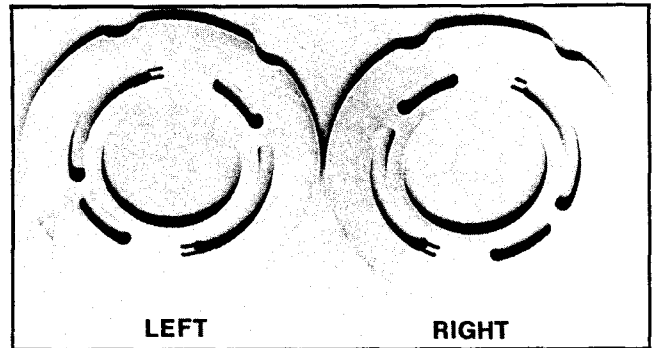

Figure 19. Wafer plates showing right and left hand configurations.
1. Assemble wafer plate locating pin (12) into valve block (51). Refer to Figure (10).
2. Assemble wafer plate (11) over the bearing race and locating pin (12) with bronze surface away from valve block (51). See Figure 19. Make sure wafer plate is flat against valve block (51).